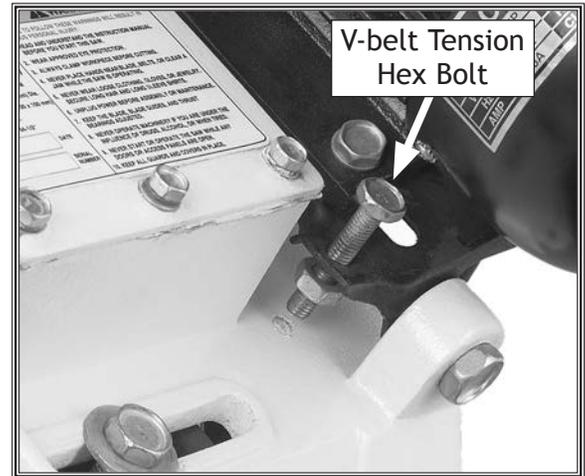

Figure 33. V-belt tension hex bolt.
2. Unthread the V-belt tension hex bolt to allow the motor to pivot (see **Figure 33**).